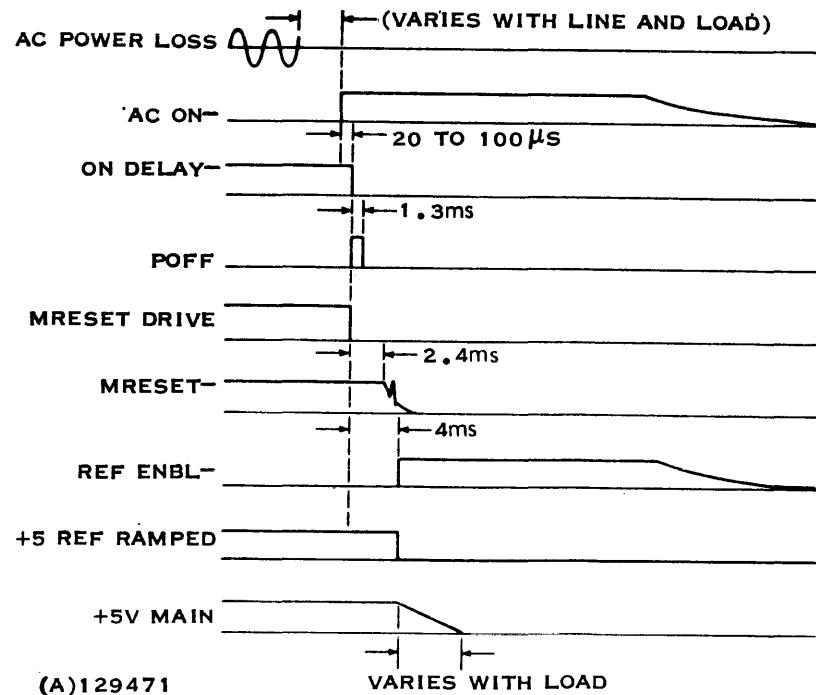

Figure 4-12. Turn-Off Sequence Timing
**4.2.1.10 TURN-OFF SEQUENCE.** Figure 4-12 illustrates the turn-off sequence waveforms. As soon as the voltage on C1 decreases below +17.5 volts, the ac detect circuit senses ac power loss. The AC ON- signal goes high. The storage capacity of the capacitor on the +35V line is large; therefore, it stays up long enough for all shut-off sequence procedures to occur even for heavy loads.